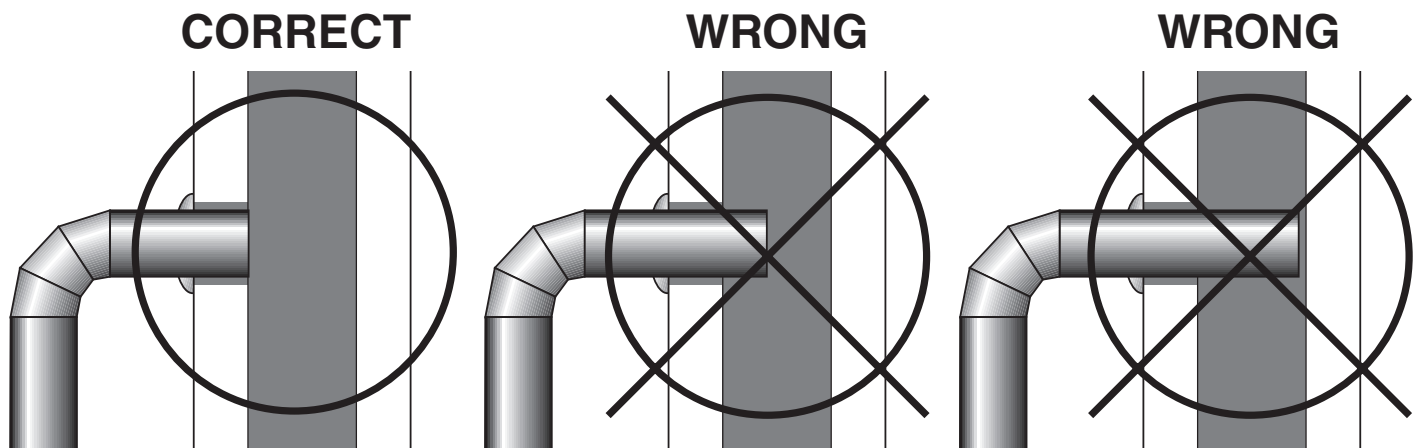

Fig. 10 – Stovepipe/Flue Connections
4. The pipe cannot extend into the chimney flue (fig. 10).
6. It is recommended that no more than two (2) 90 degree bends be used in the stovepipe installation. The use of more than two 90 degree bends may decrease the amount of draw and possibly cause smoke spillage. Where possible, use only corrugated (non-adjustable) elbows. These provide a better seal.
7. The connector pipe must not pass through an attic or roof space, trusses, closet, or any concealed space, or floor, ceiling, wall or combustible construction. (See Chimney Connector Systems & Clearances, page 19). A UL 103 HT (US)/ULCS629 (CDN) listed chimney must be used from the first penetration of ceiling or wall to the chimney cap. Where passage through a wall or partition of combustible construction is desired, the installation shall conform to NFPA 211 (US) or CAN/CSA-B365 (Canada)
Connection may be made to a code-approved masonry chimney with flue liner. Before using an existing masonry chimney, clean the chimney, inspect the flue liner and make any repairs needed to be sure it is safe to use. Make repairs before attaching the stove. The connector stove pipe and fittings you will need to connect directly to a lined masonry chimney are shown in figure 10. If the connector stove pipe must go through a combustible wall before entering the masonry chimney, consult a qualified mason or chimney dealer. The installation must conform to local building and fire codes and latest edition of NFPA 211. If there is a clean out opening in the base of the chimney, close it tightly.
2. Install a fire clay (5/8" minimum thickness) thimble. Make sure the thimble is flush with the inner surface of the chimney liner and does not protrude into the flue (see figure 10 on page 9).